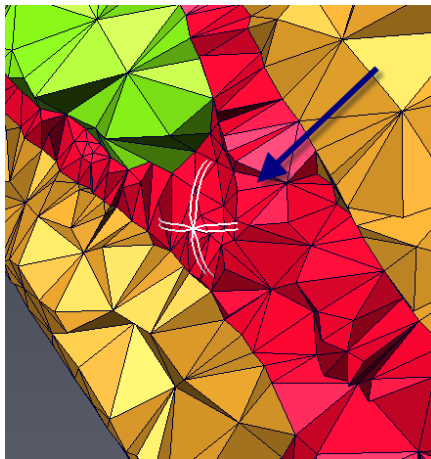

Figure 11.9: Clipping Plane Rotation Manipulator
- Click **Rotate** in order to show a dedicated manipulator located at the center of the plane (Figure 11.9). Select the manipulator with the left mouse button and rotate by moving the mouse while keeping the left mouse button pressed.